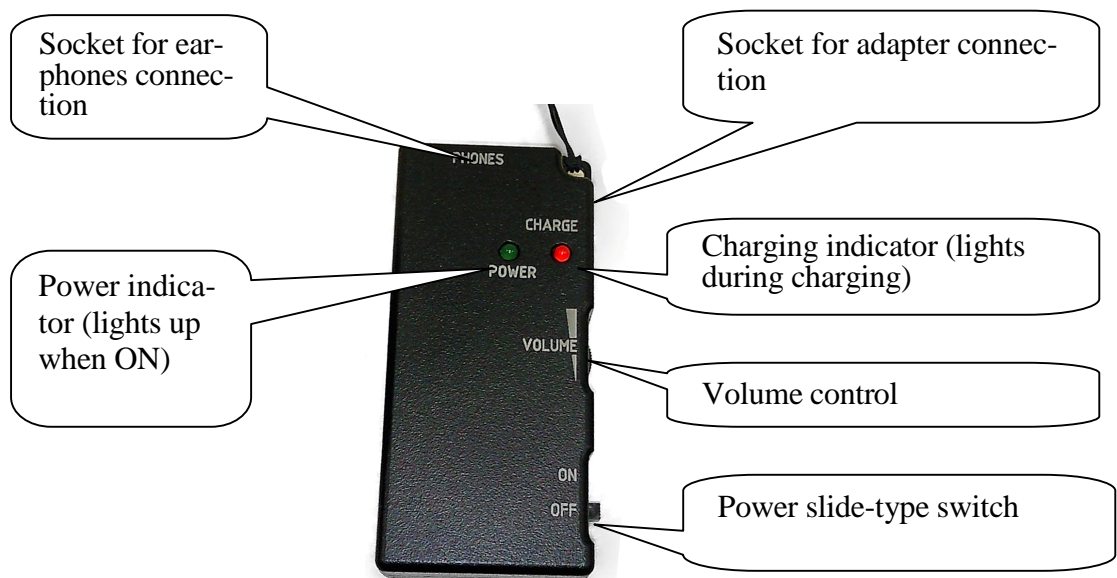

Fig. 6 Receiver
4.6. Control elements of the receiver are shown in Fig. 6.